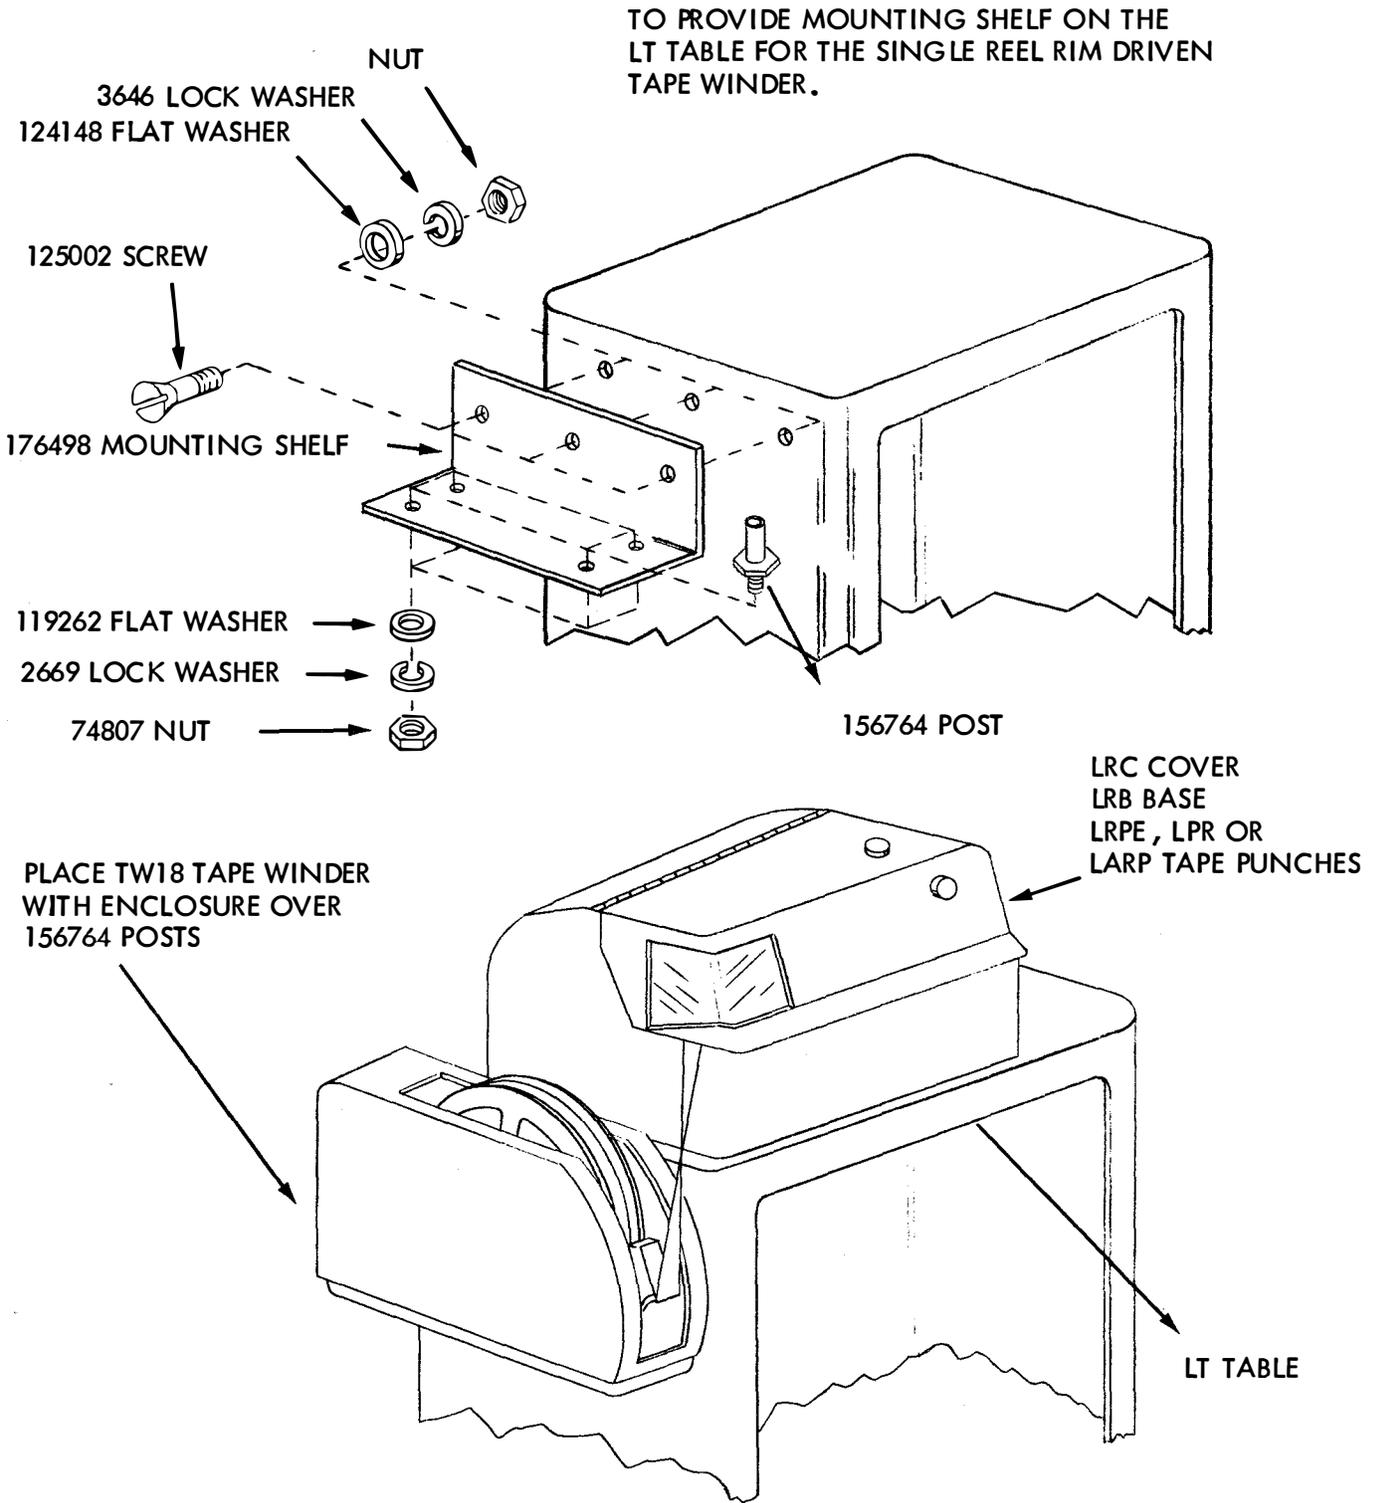

FIGURE 2
c. With the LT Table, position the punch to the front left side of the table top providing proper tape routing from punch to winder. (See Figure 2)